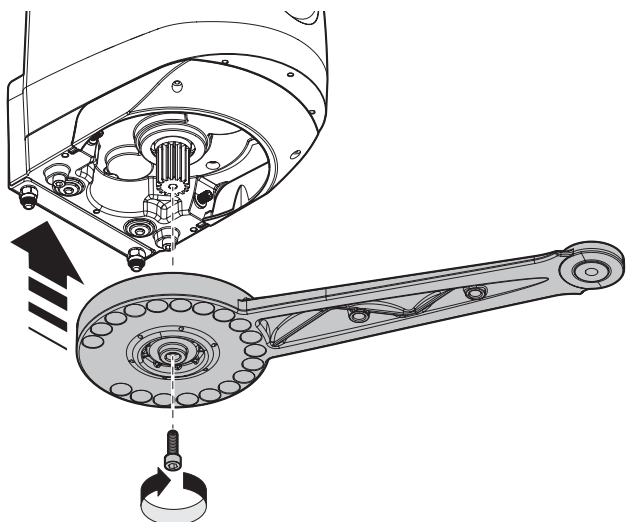

Fig. 8
- 02.** Release the gear motor as shown in **Fig. 8**;